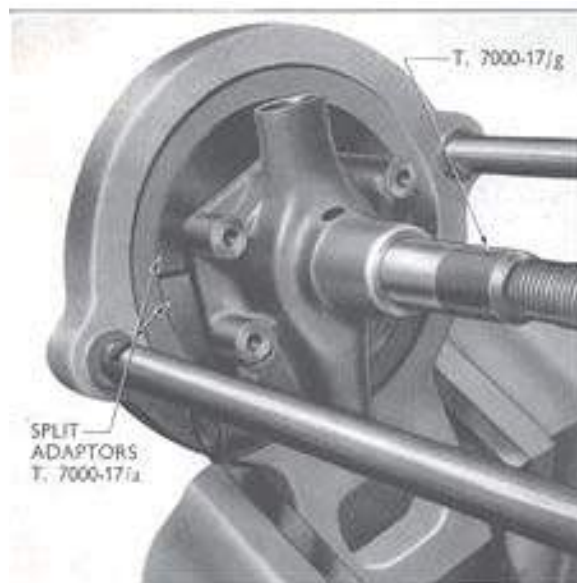

Fig. 39
1. Press the shaft and bearing assembly into the housing (long end of the shaft towards the impeller end of the pump) until the bearing is flush with the housing, using split adaptors (T.7000-17a) and the hollow adaptor (T.7000-17g) as shown on Fig. 39.